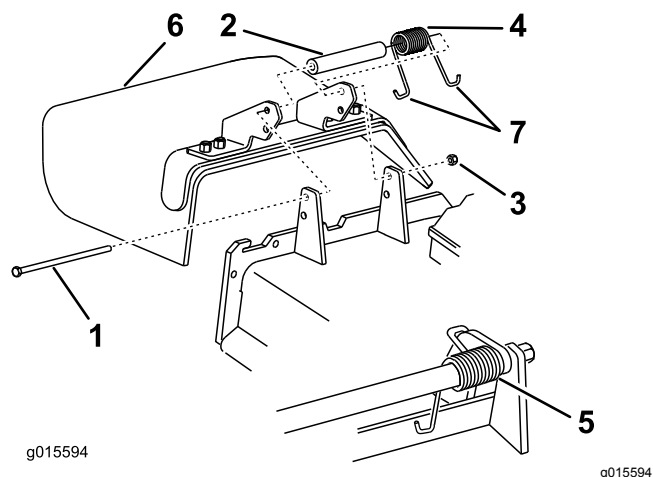

Figure 97
6. Place 1 J-hook end of the spring around the grass deflector (Figure 97).
1. Remove the locknut, bolt, spring, and spacer holding the deflector to the pivot brackets (Figure 97).
2. Remove the damaged or worn grass deflector (Figure 97).
Note: Make sure that 1 J-hook end of the spring is installed behind the deck edge before installing the bolt as shown in Figure 97.